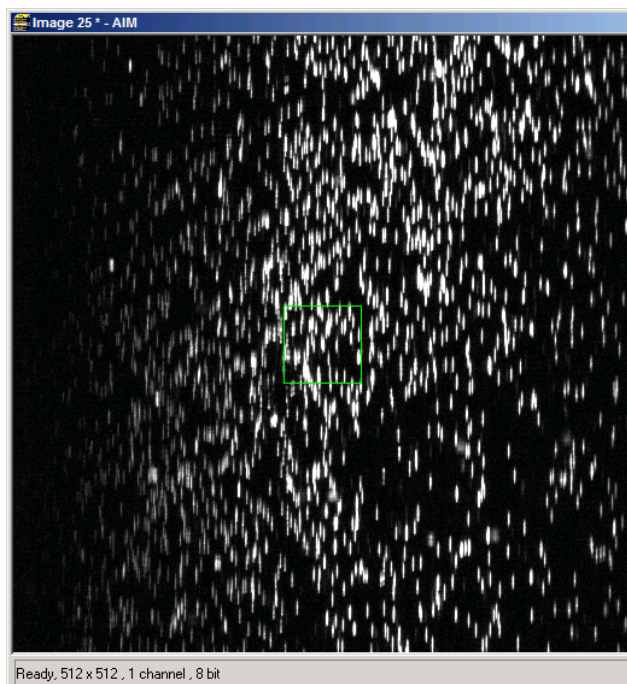

Fig. 5-11 Beads focused for maximal vertical thinness
- Focus with the microscope focus drive to get the vertical lines as thin as possible (Fig. 5-11).